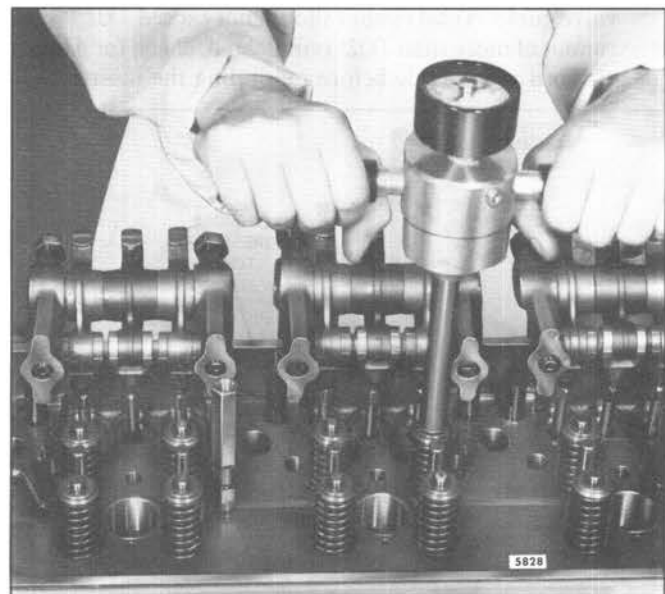

Fig. 17 - Checking Pressure Required to Open the Exhaust Valve in Cylinder Head with Tool J 25076-01
11. With the exhaust valves installed in the cylinder head, use spring checking gage J 25076-01 and note the gage reading the moment the exhaust valve starts to open (Fig. 17). The minimum allowable pressure required to start to open the exhaust valve must not be less than 20 pounds.